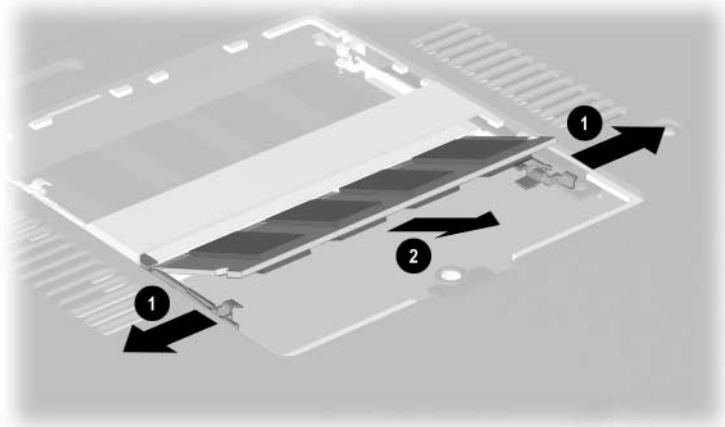

Figure 5-9. Removing a Memory Expansion Board
6. Spread the memory expansion slot retaining tabs to release the memory expansion board ❶. The board tilts up at a 45-degree angle (Figure 5-9).
7. Remove the board by pulling it away from the connector at a 45-degree angle ❷.